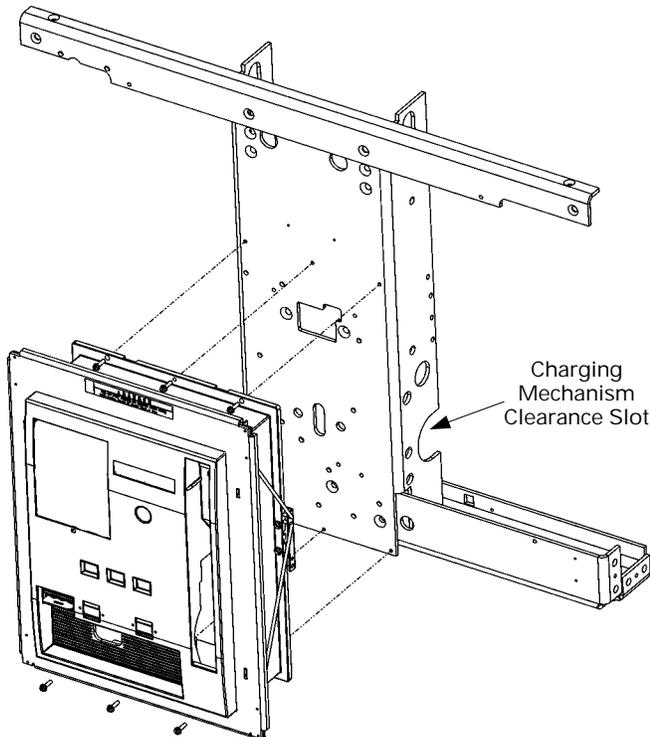

Figure 39. Removal and installation of the escutcheon.
Use the following procedure, illustrated in Figure 39, to remove the escutcheon:
Use the following procedure, illustrated in Figure 39, to install the escutcheon:
6. Push the TRIP button. Use the maintenance handle to rotate the mechanism link to a horizontal position, so that it can pass through the slot shown in Figure 39.
2. Place the replacement charging mechanism assembly into position on the two spacers and insert the two bolts and lock washers through the bottom of the frame. Be sure to rotate the mechanism link to a position that will clear the slot shown in Figure 39.